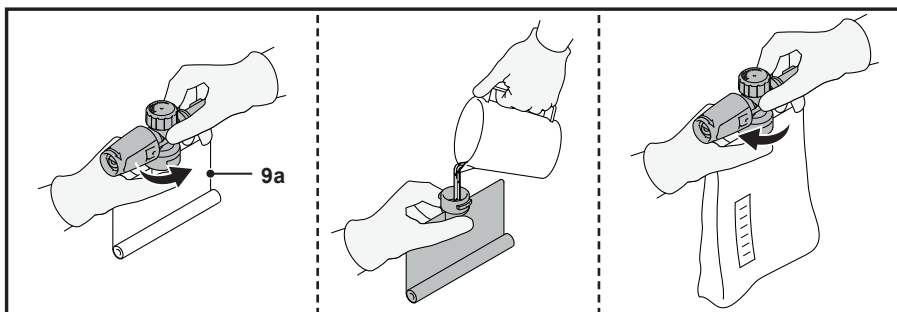

Fig. 5
1. Unscrew the cap of the detergent tank (9a) by turning it in an anti-clockwise direction by 90° (Fig. 5).
2. Fill it with a maximum of 600 ml diluted mild detergent (Fig. 5).
3. Fasten the cap of the detergent tank (9a) by turning it in a clockwise direction by 90° (Fig. 5).